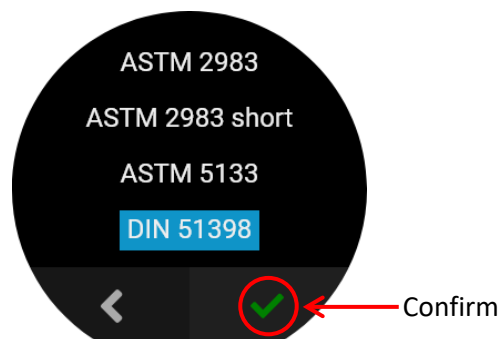

Figure 43: Confirm Test Method
4. Choose appropriate test method and press green checkmark to confirm choice. The new method chosen will remain as the default method on your unit until this process is repeated and a new method is chosen. See Figure 43.